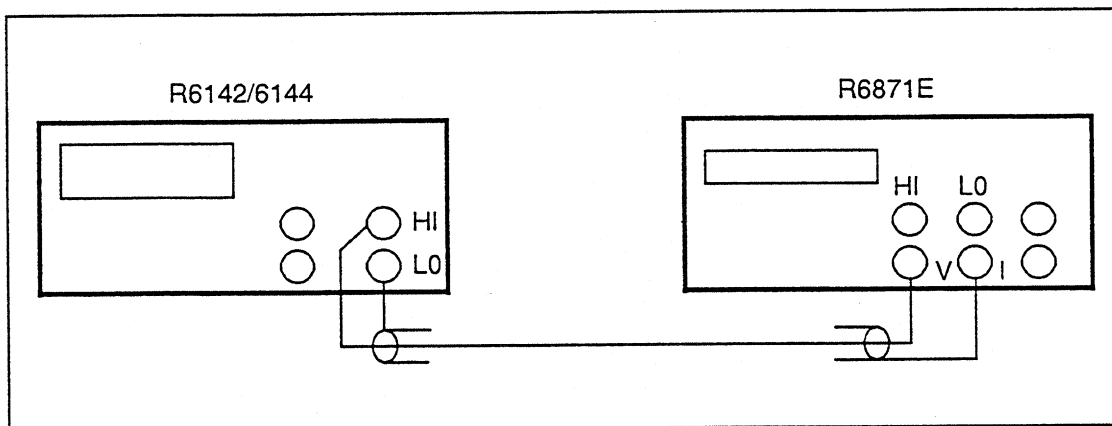

Figure 4-1 Cable Connection for Output Voltage Test
- ① Connect the R6142/6144 to the R6871E as shown in Figure 4-1.